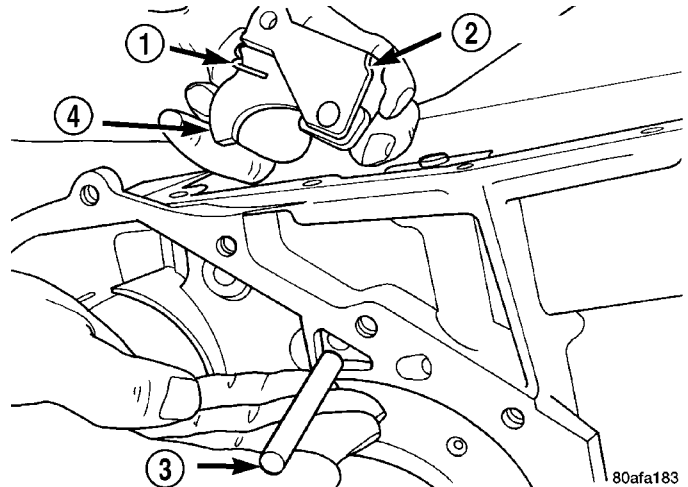

Fig. 77 Pivot Shaft and Guide Bracket
(60) Using ordinary pliers, remove pivot shaft and guide bracket assembly (Fig. 77).